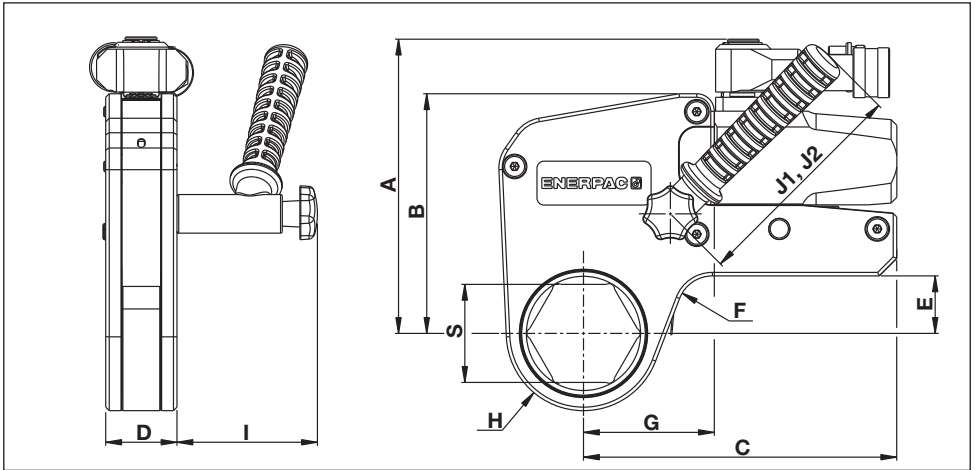

Fig. 22
6.1 Capacities, Dimensions and Additional Product Data (Fig. 22)
6.2.1 Metric System Table - W2000X, W4000X and W8000X Series Cassettes (see Fig. 22 for locations of dimensions S, H and G)
6.2.2 Metric System Table - W15000X Series Cassettes (see Fig. 22 for locations of dimensions S, H and G)